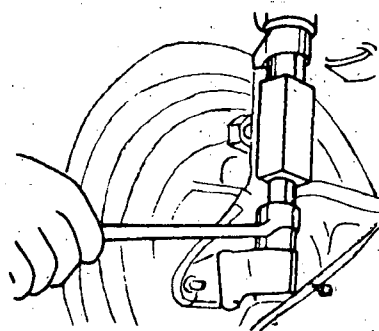

Fig. 3
- d) Loosen the ball joint using the recommended tool (fig. 3).